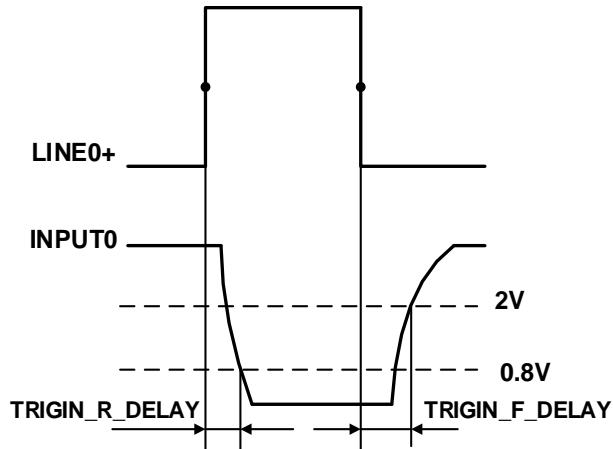

Figure 7-4 Parameter of opto-isolated input circuit
- Rising edge delay: <50 $\mu$ s (0°C~45°C), parameter description as shown in Figure 7-4
- Falling edge delay: <50 $\mu$ s (0°C~45°C), parameter description as shown in Figure 7-4
- Input rising time delay: <2μs (0°C~45°C), parameter description as shown in Figure 7-4
- Input falling time delay: <2μs (0°C~45°C), parameter description as shown in Figure 7-4